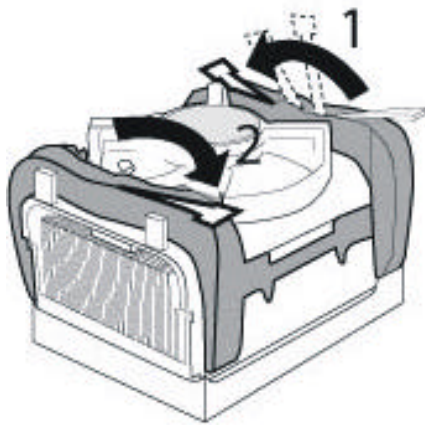
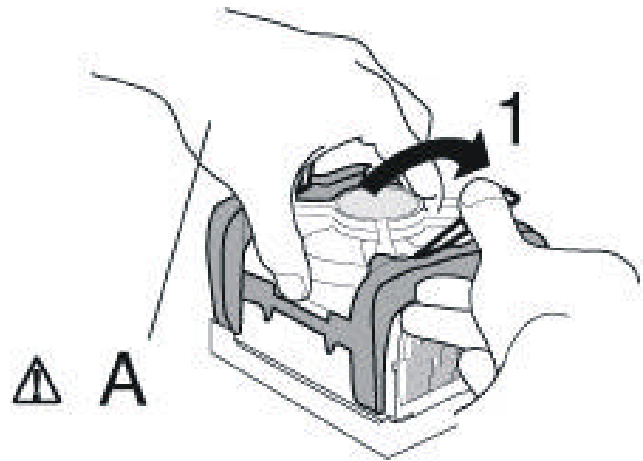

Figure 3-9a: Installing the Fan Heatsink (4)
Figure 3-9b: Installing the Fan Heatsink (5)
- a.) Make sure to close the clips levers in opposing directions, one at a time (levers require force to be completely closed), as shown in Figure 3-9a. First, close the clip lever (1 in Figure 3-9b), while holding the topside of the fan heatsink with your other hand (A in Figure 3-9b).